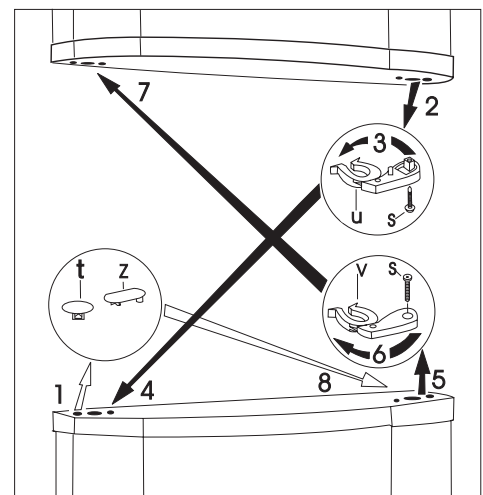

fig. 5.
10. Remove stops in both doors (t, z) (Fig. 5).
15. Disassemble the door locking elements (u, v) by unscrewing the screw (s) (Fig. 5).